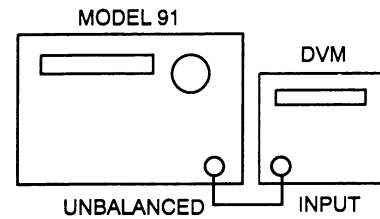

Figure 4-22. Confidence Check Setup
- The Model 91 displays **CONFIDENCE** which tests and verifies the accuracy of the Model 91's voltage reference, DVM, and output amplifier. Connect test equipment (DMM set to Vdc) as shown in figure 4-22 (no termination).